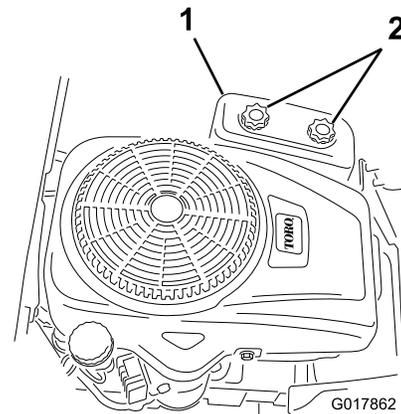

Figure 28
4. Remove the air cleaner cover by unscrewing the 2 knobs (Figure 28).